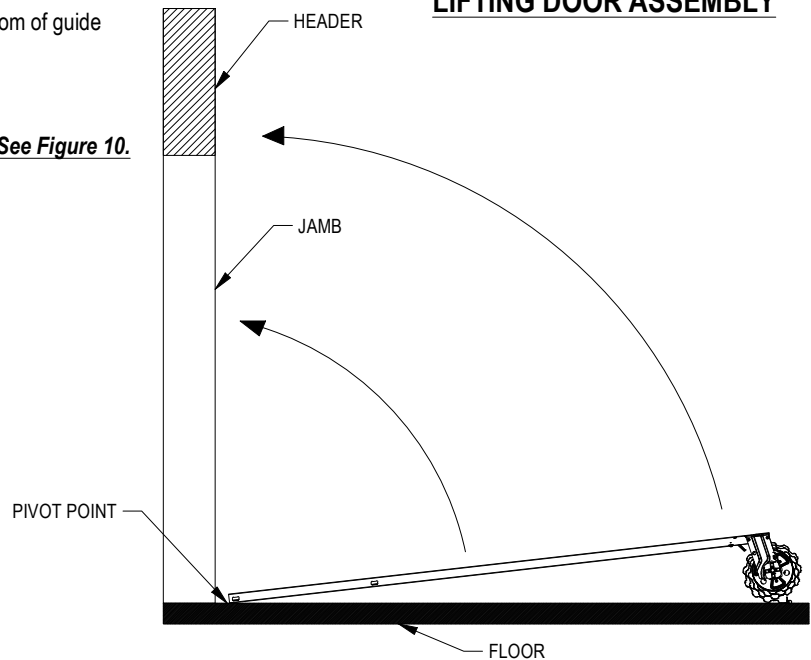

FIGURE 10:
- Lift door assembly evenly by pivoting around bottom of guides See Figure 10.